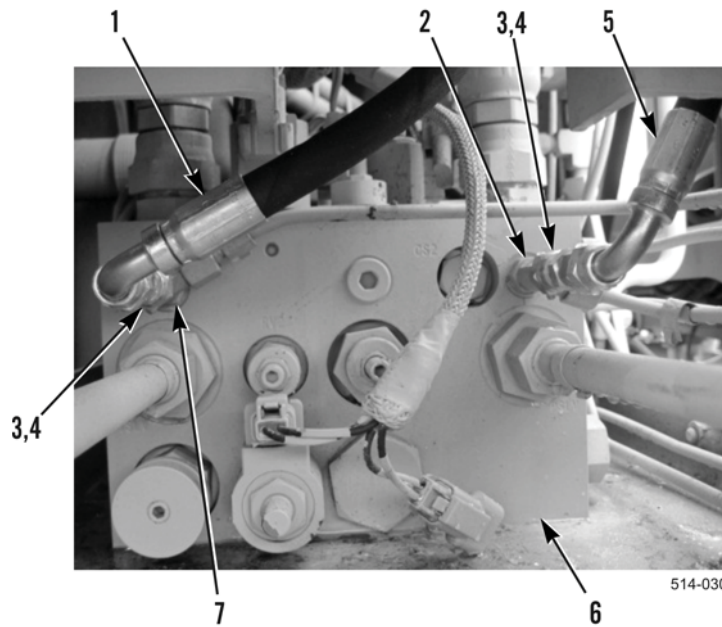

Figure 28. PLS M1075A1 Hydraulic Hose Installation.
16. Route pressure hose (Figure 28, Item 5) and relief hose (Figure 28, Item 1) to hydraulic control (Figure 28, Item 6).
17. Install two fittings (Figure 28, Items 3 and 4) on hydraulic control fitting (Figure 28, Item 2), and pressure hose (Figure 28, Item 5).
18. Install two fittings (Figure 28, Items 3 and 4) on hydraulic control fitting (Figure 28, Item 7), and relief hose (Figure 28, Item 1).